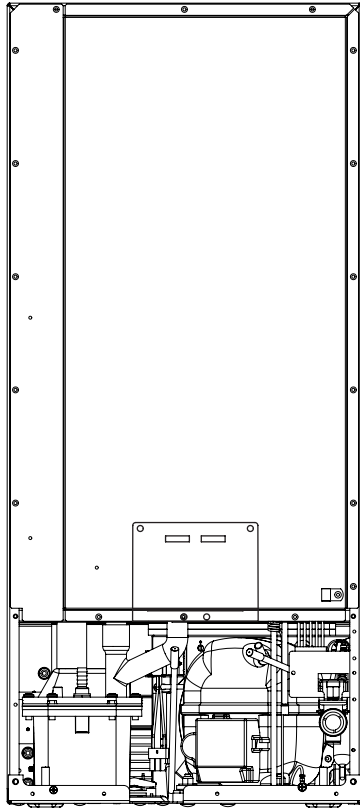

Figure 42
7. Disconnect the water valve's outlet water line to the reservoir and drain the remaining water left in the water line trap area. (See Figure 42 and 42a).
8. Reconnect the water valve outlet water line. (See Figure 42 and 42a).
7. Disconnect the ice machine power cord from the drain pump (See Figure 42).